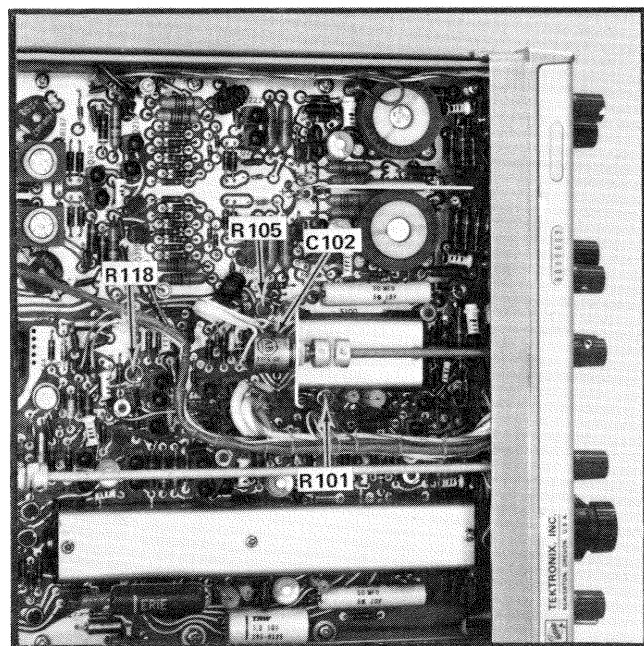

Fig. 5-12. Delay calibration adjustments.
f. ADJUST—The delay adjustments, listed in Table 5-4, until the delay is within required tolerance. Fig. 5-12 shows the location of the delay calibration adjustments.